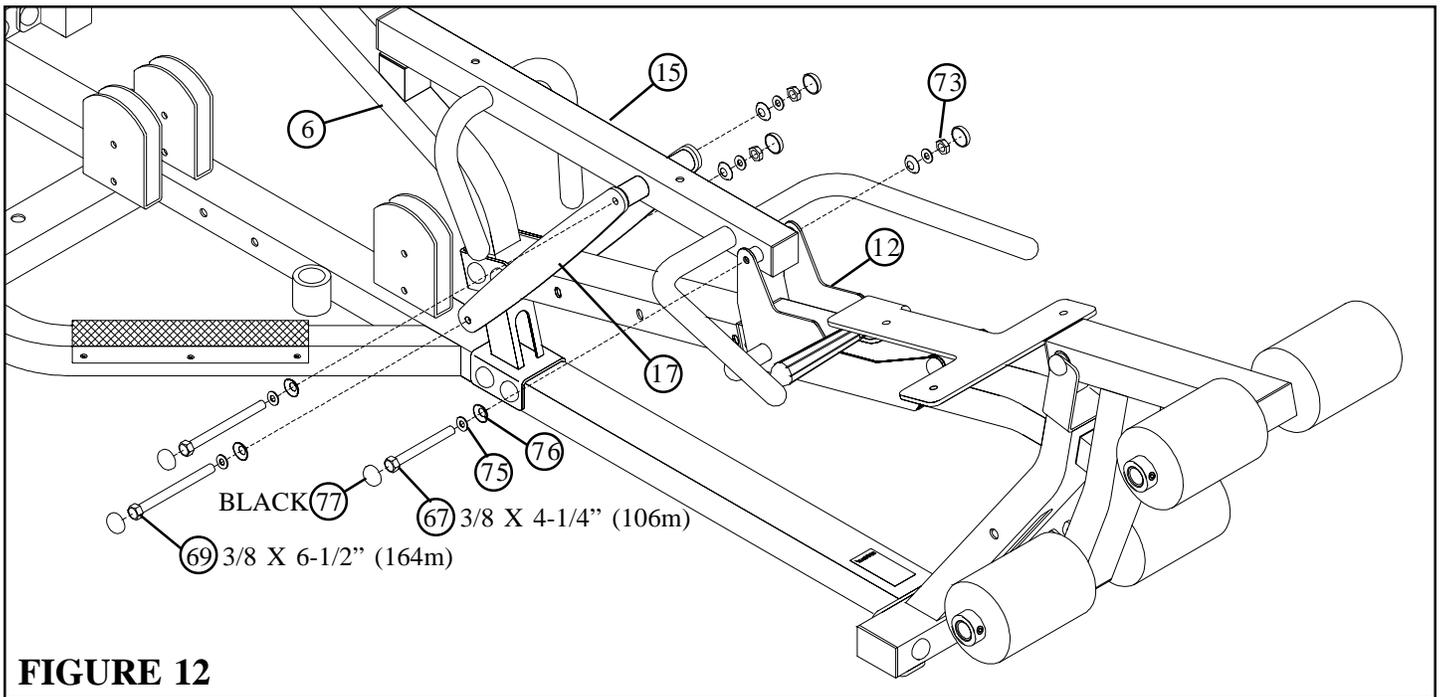

**FIGURE 11**
- Insert two 5-1/2" PIVOT SHAFTS (46) into the UPRIGHT SUPPORT (6) and BACK PAD SUPPORT (15) as shown in FIGURE 11..